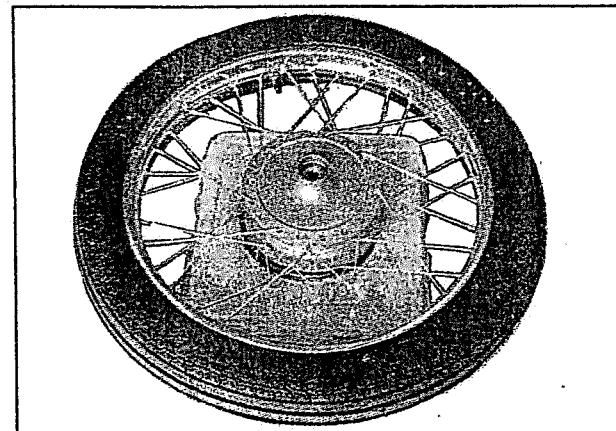

Fig 6.4
- Heat the hub assembly on a hot plate upto 125° C. (fig 6.4)